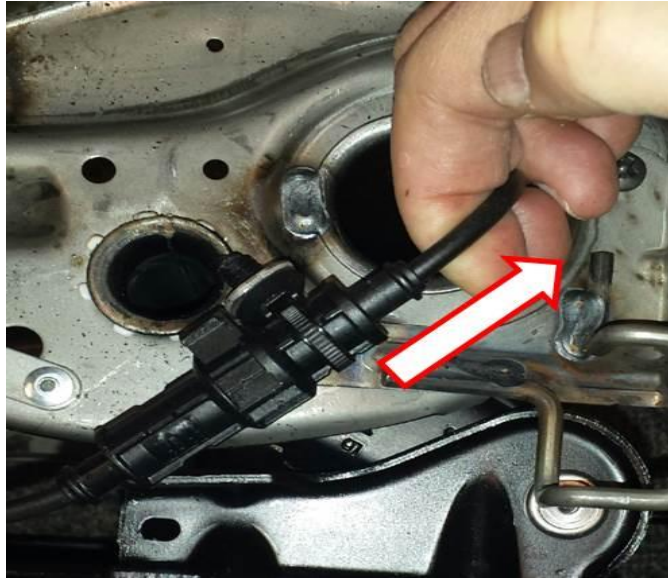

Fig. 5 Remove Slack From Adjuster
8. While holding the recliner closed with one hand use the other hand to pull the movable end of the conduit out of the adjuster as far as possible to remove all slack (Fig. 5).